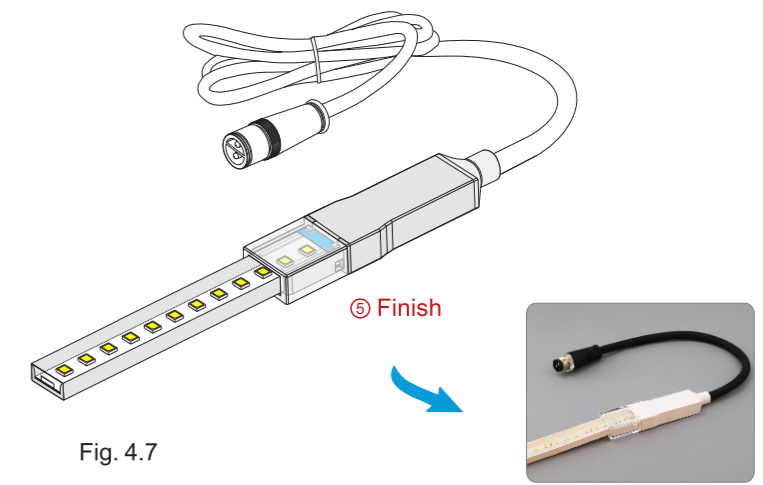

Fig. 4.7
- Fig. 4.7 — The complete assembly